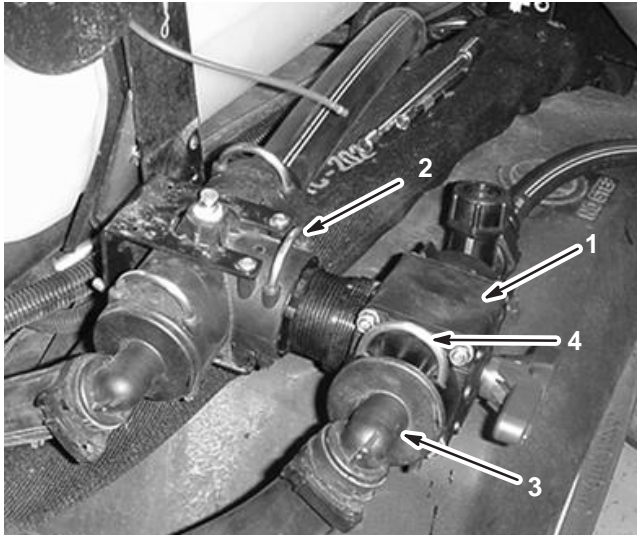

Figure 7
3. Install the new control valve into the open port on the supply tee and secure it with a new retainer (Fig. 7).
4. Connect the boom hose you disconnected in step 1 to the open port on the control valve and secure it with the retainer you removed in step 1 (Fig. 7).